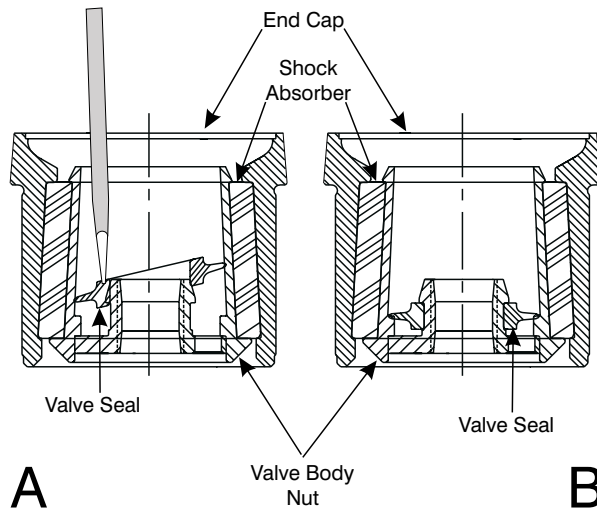

Figure 9-6. Press Bushing into Valve
- 20. Lubricate the Valve Seal (13) and fit it over the end of the valve guide hub in the Valve Body Nut See. Figure 9-6-A.
- 21. With a large, flat screw driver, press the Valve Seal onto the valve guide hub in the Valve Body Nut. Moving progressively around the seal, press each quarter of the seal deeper onto the hub until the seal seats in the seal groove of the hub as shown in Figure 9-6-B.